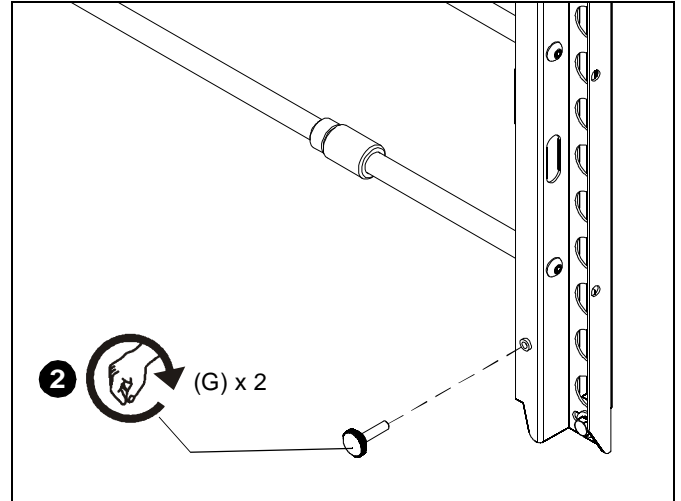

Figure 2
2. Install and tighten the knob (G) on each speaker extension. (See Figure 2)